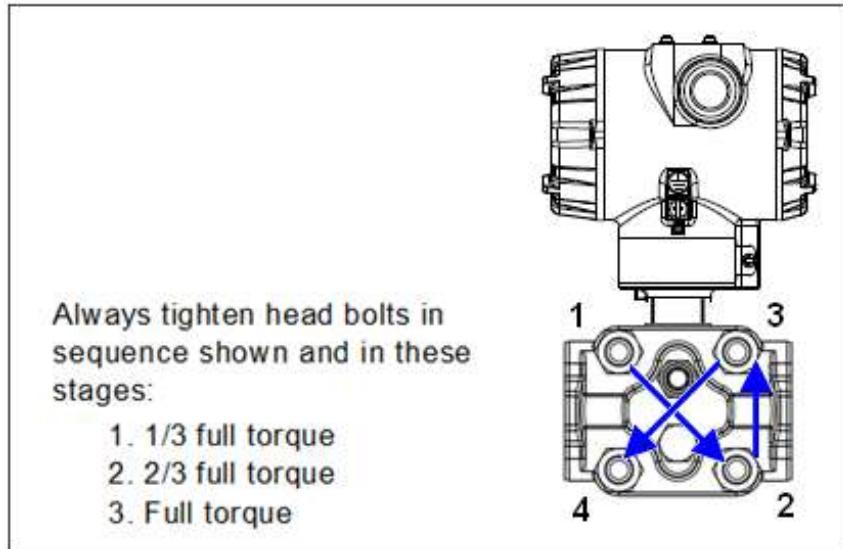

Figure 23 – ST 700 Standard Transmitter - Head Bolt Tightening Sequence
4. Loosen the nuts in the sequence shown in Figure 23.
12. Using a torque wrench, gradually tighten the nuts in the sequence shown in Figure 23.